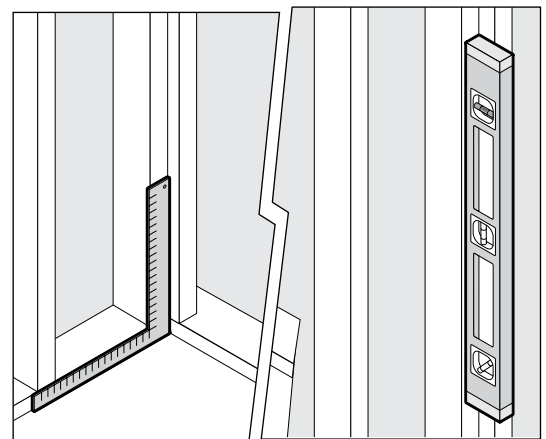

FIGURE 1. Check that studs are plumb with sub-floor/base.
- Alcove should be constructed as shown on page 1. Studs must be plumb and square to sub-floor. Sub floor must be level. (Fig. 1)